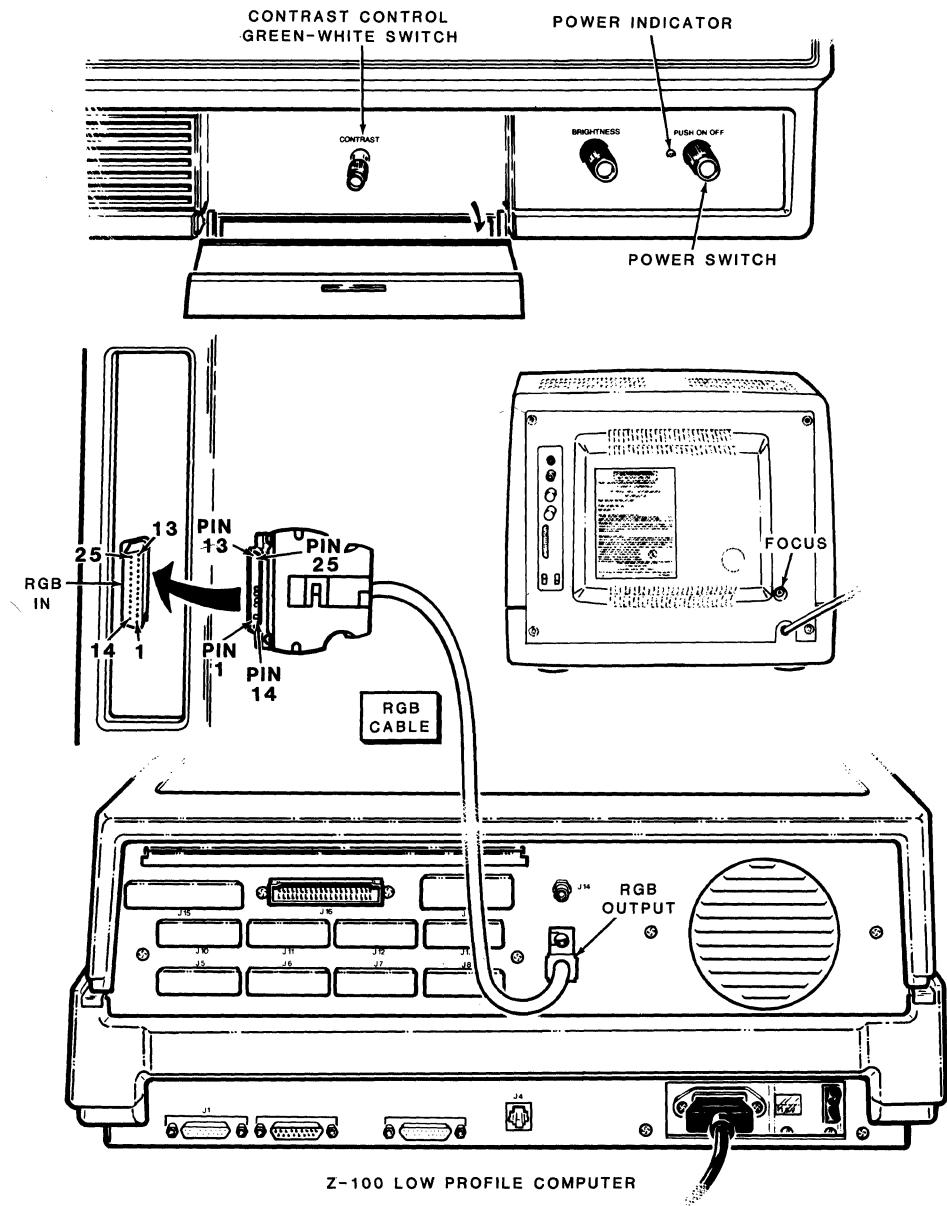

Figure 3
1. Connect the cables as shown in Figure 3.